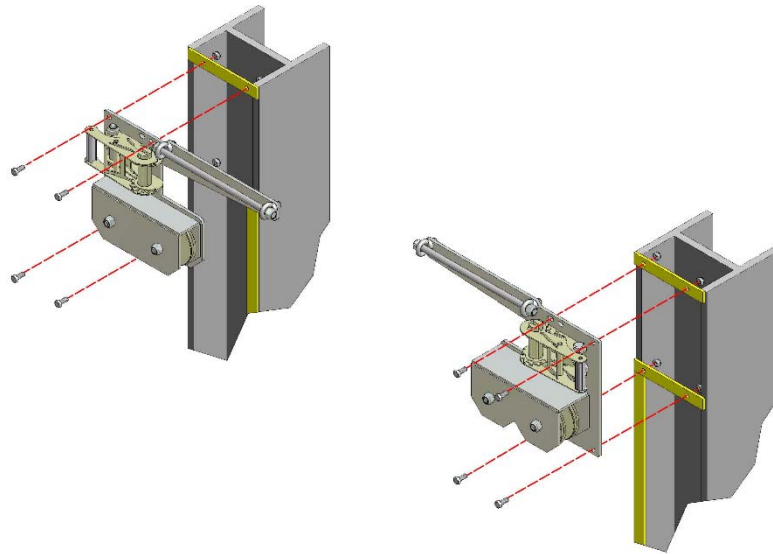

Figure 26
9.2 Replacing Section 2.1: Top Plate Assembly: Bolt the Top Plates (G1 and G3) to the pre-installed brackets on the Tracking top with the eight M8 x 30 bolts supplied (Figure 26). Note that Top Plate G3 has a 'W' shape on the pulley bracket.